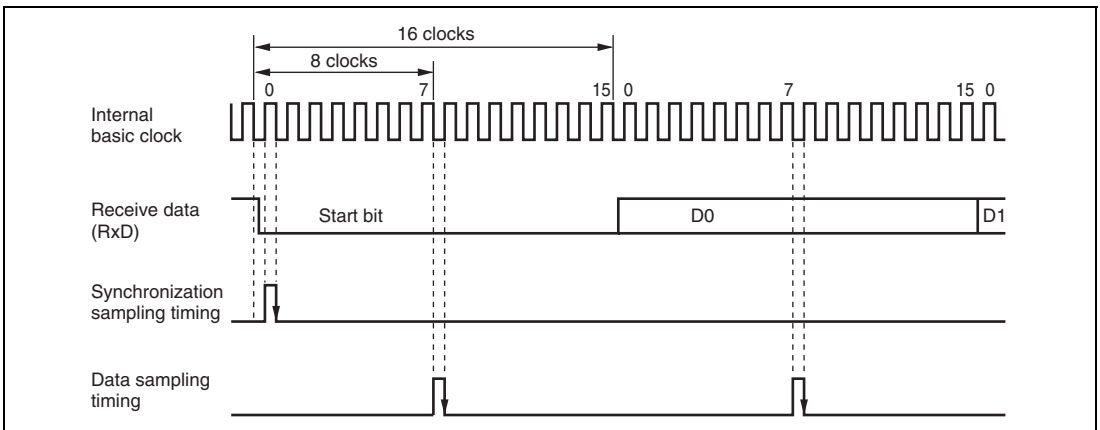

Figure 13.3 Receive Data Sampling Timing in Asynchronous Mode
In asynchronous mode, the SCI operates on a basic clock with a frequency of 16 times the bit rate. In reception, the SCI samples the falling edge of the start bit using the basic clock, and performs internal synchronization. Since receive data is latched internally at the rising edge of the 8th pulse of the basic clock, data is latched at the middle of each bit, as shown in figure 13.3. Thus the reception margin in asynchronous mode is determined by formula (1) below.